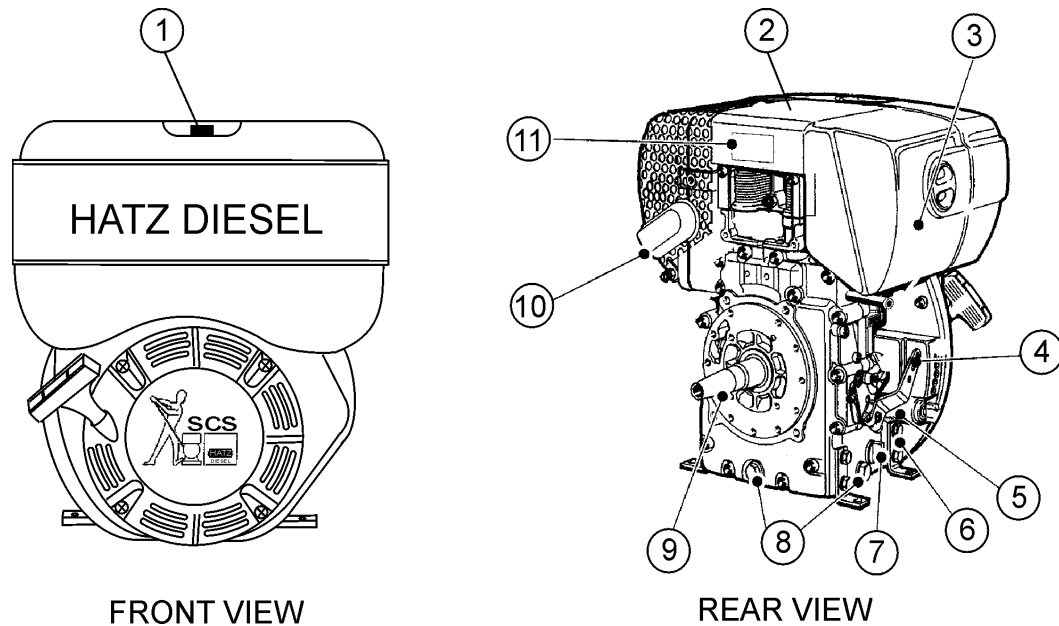
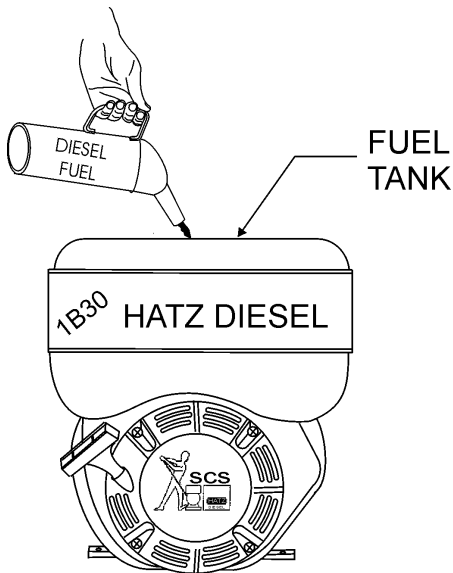

Figure 1. Basic Engine Components
Figure 4. Fuel Tank
The engine (Figure 1) must be checked for proper lubrication and filled with fuel prior to operation. Refer to the manufacturers Engine manual for instructions & details of operation and servicing.
See Figures 1 and 2 (Pages 11 and 12) for the location of any control or component referenced in this manual.
1. Lift the fuel cap latch (Figure 1) located on top of the fuel tank, then look inside the tank and determine if the engine fuel is low. If fuel is low, fill with **diesel fuel** (Figure 4).